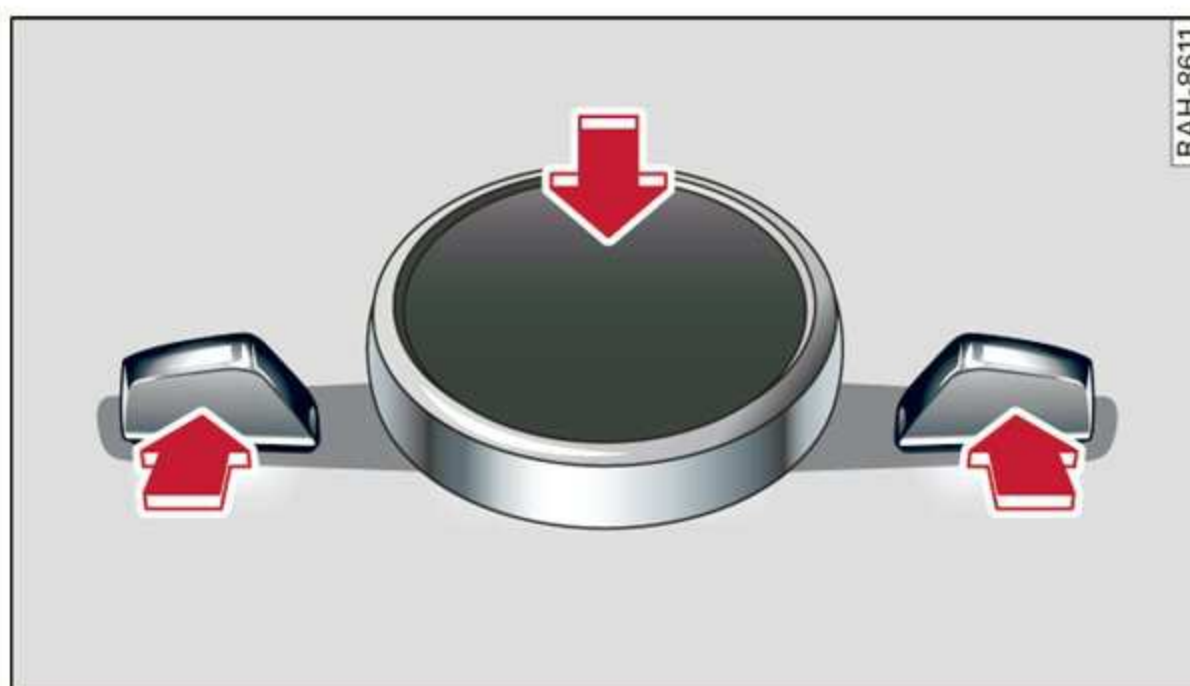

Fig. 144 Button combination to restart the system
- ▶ Briefly press the control knob and both buttons *at the same time* to immediately open the menu upward ⇒ *fig. 144.*